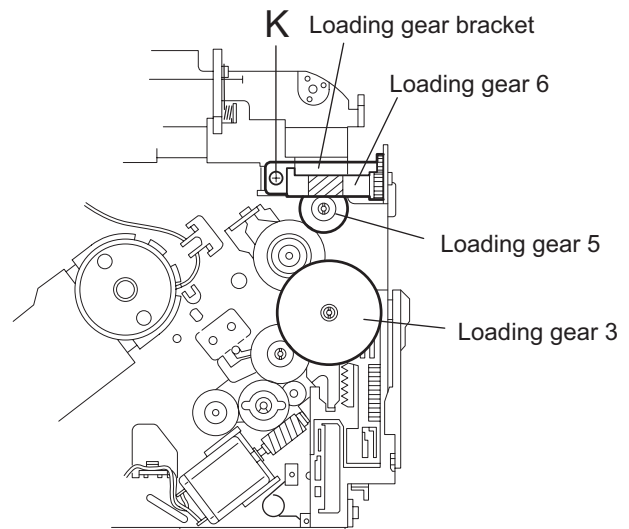
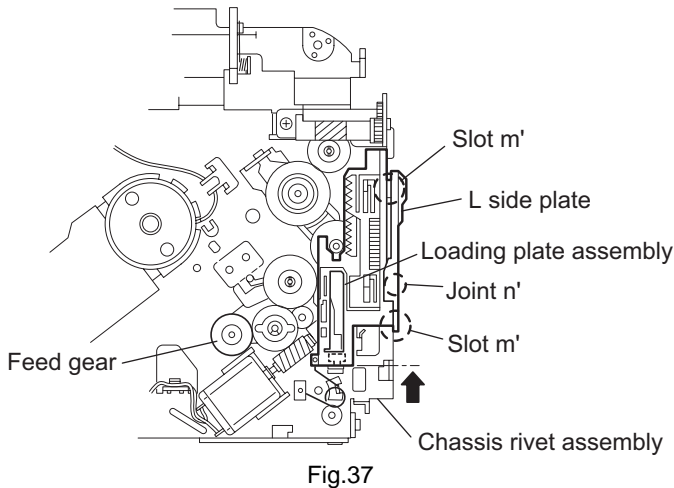
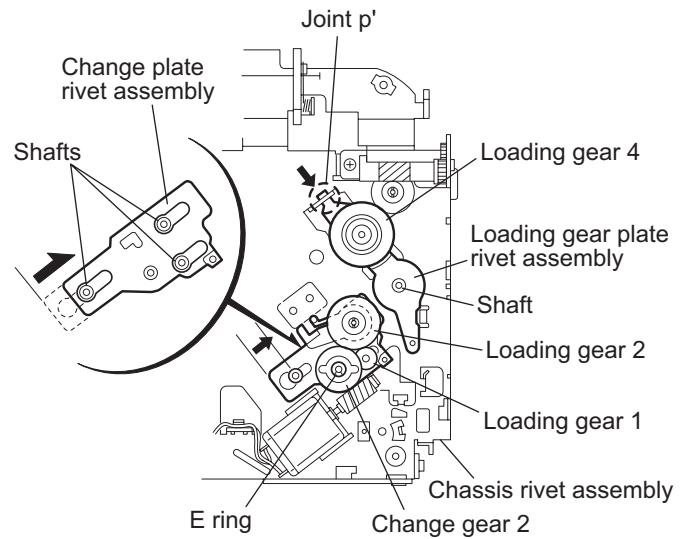

Fig.35
Fig.37
Fig.38
2.2.16 Removing the loading gear 5, 6 and 7 (See Figs.35 and 36)
(See Figs.37 to 40)
- Pull out the loading gear 3. (See Fig.35.)
- (1) Pull out the feed gear.
- (2) Move the loading plate assembly in the direction of the arrow to release the L side plate from the two slots m' of the chassis rivet assembly. (See Fig.37.)
- (3) Detach the loading plate assembly upward from the chassis rivet assembly while releasing the joint n'. Remove the slide hook and loading plate spring from the loading plate assembly.
- (4) Pull out the loading gear 2 and remove the change lock lever.
- (5) Remove the E ring and washer attaching the change gear 2.
- (6) The change gear 2, change gear spring and adjusting washer come off.
- (7) Remove the loading gear 1.
- (8) Move the change plate rivet assembly in the direction of the arrow to release from the three shafts of the chassis rivet assembly upward. (See Fig.38.)
- (9) Detach the loading gear plate rivet assembly from the shaft of the chassis rivet assembly upward while releasing the joint p'. (See Figs.38 and 40.)
- (10) Pull out the loading gear 4.